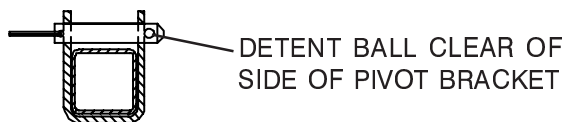

Figure 2-9. Correct Position of Locking Pin
1 - Guardrail Locking Pin With Lanyard - To fold the guardrail system down, remove the locking pin at each pivot point and lower each guardrail. To raise the guardrail system, swing up each guardrail and lock in place with the locking pins ensuring that the detent ball of each pin is clear of the side of the pivot brackets. (Figure 2-9.)
3. If equipped with a fold-down guardrail system, swing up and lock all guardrails in place with locking pins. (Refer to Figure 2-9.)